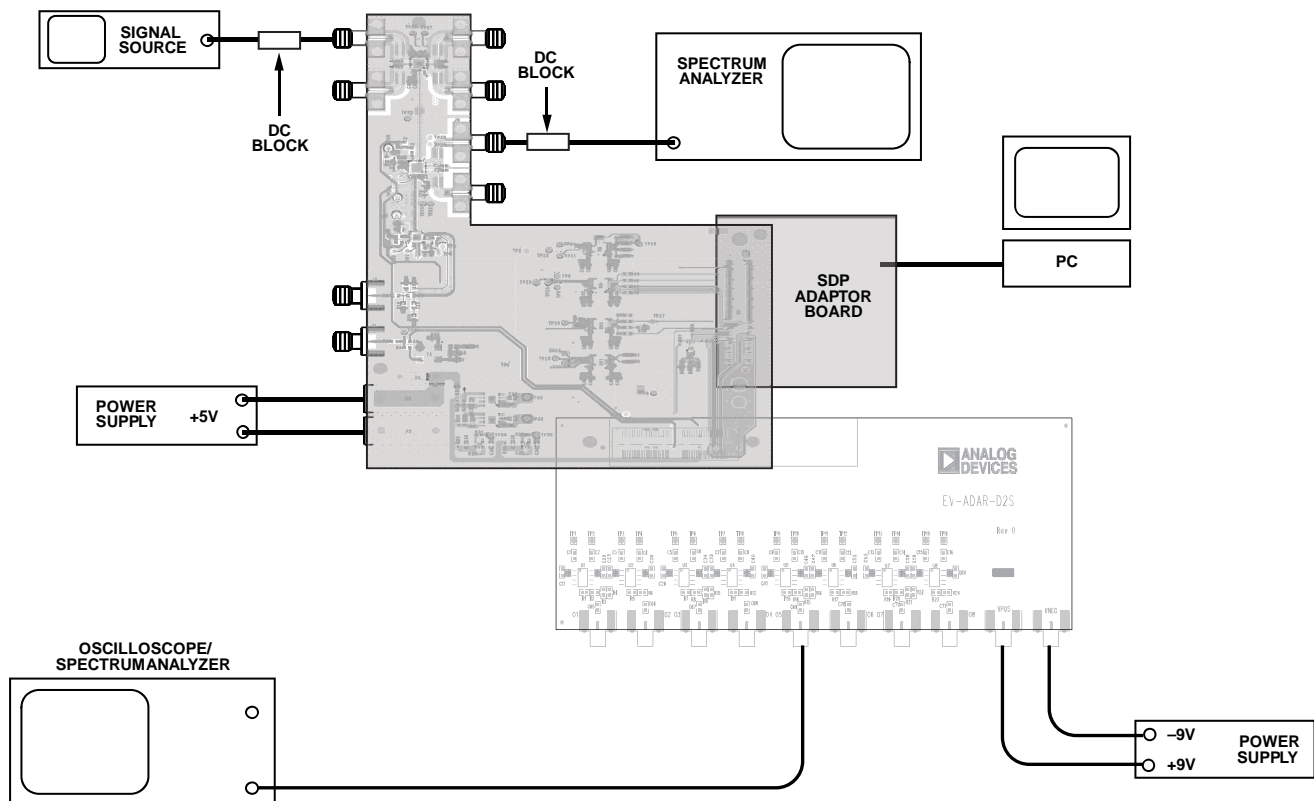

Figure 7. Typical Evaluation Setup
11. In the ADF5901 Controls tab, click **Initialize ADF5901** to power up and calibrate the ADF5901. See Figure 7 for a typical setup.